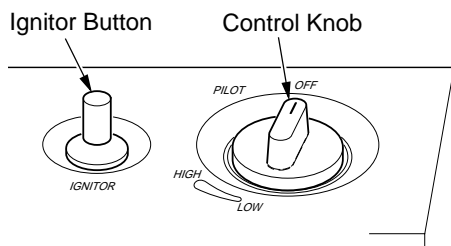

Figure 17 - Control Knob In The OFF Position
3. Check all joints from gas meter for natural or propane/LP supply to equipment shutoff valve (see Figure 17 or 18). Apply a noncorrosive leak detection fluid to all joints. Bubbles forming show a leak.
4. Wait five (5) minutes to clear out any gas. Then smell for gas, including near the floor. If you smell gas, **STOP!** Follow "B" in the safety information, above. If you don't smell gas, go to the next step.
5. Press in control knob and turn counterclockwise  to the PILOT position. Keep control knob pressed in for five (5) seconds (see Figure 17, page 11).